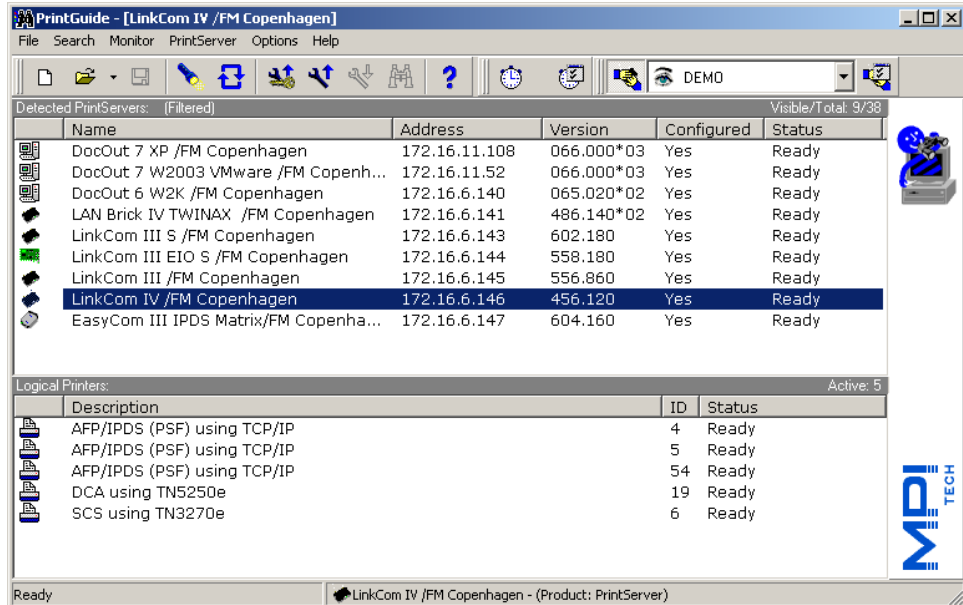

Figure 7
2. Locate a PrintServer on the list of **Detected Devices** (Figure 7) and double-click it. The PrintServer is identified by its **Address** and **Name**.